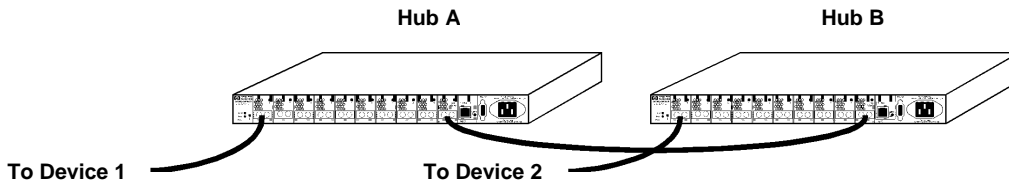

Figure 29. Cascaded HP FC-AL long-wave hub (HP A4839A) configuration
- If connecting long-wave hubs, refer to figure 29.